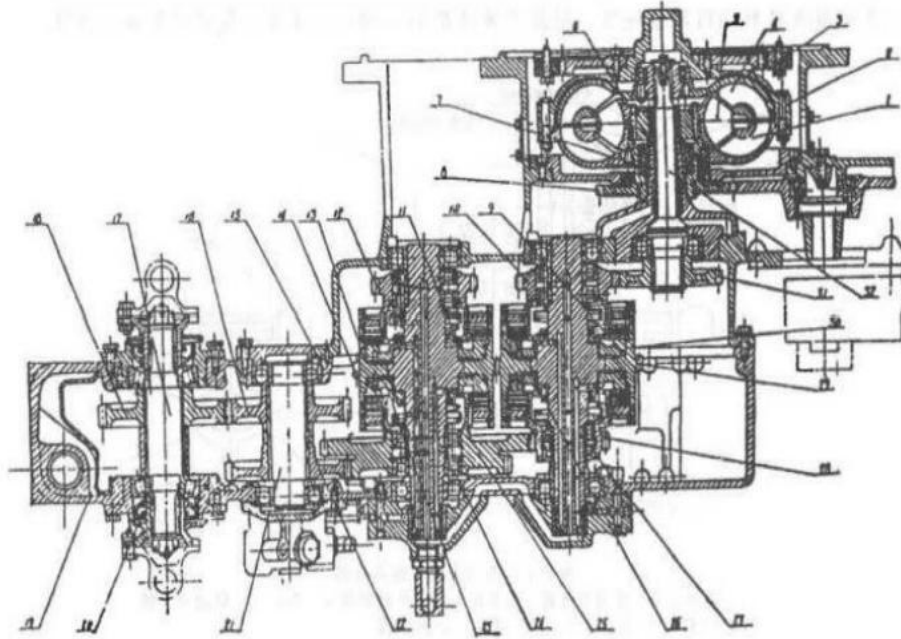

Figure 2-11 Torque converter - transmission box
1. Brief description of structure (see Figure 2-11)
2. Working process (see Figure 2-11)